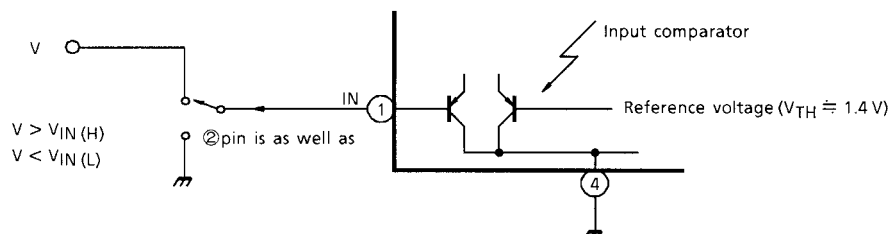

Figure 1
(1) Input circuit
Input circuit is shown in Figure 1. It's a "Low active" type voltage comparator that's one input connect to Input terminal (pin (1), or (2)) and the other to built-in temperature compensated voltage reference ($V_{TH} = 1.4 \text{ V Typ.}$)